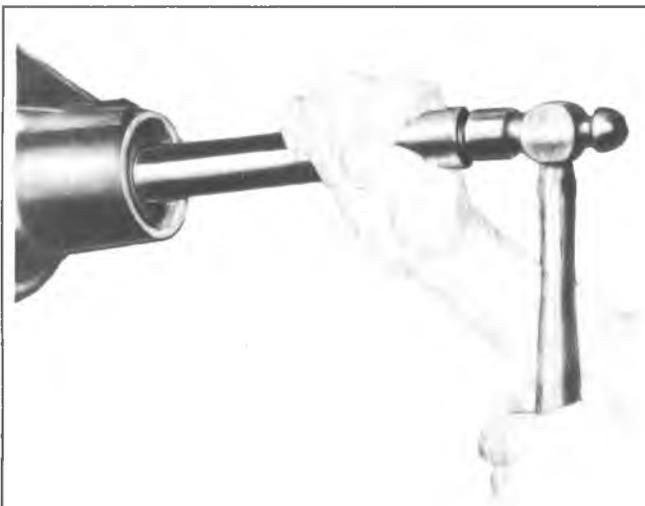

Fig. 17B—Installing Pinion Front Bearing Cup
7. Install the front cup, with the large end against the bore shoulder, using Installer J-8611-01 for the 8-1/2" ring gear or J-7137 for the 8-7/8" ring gear as shown in figure 17B.